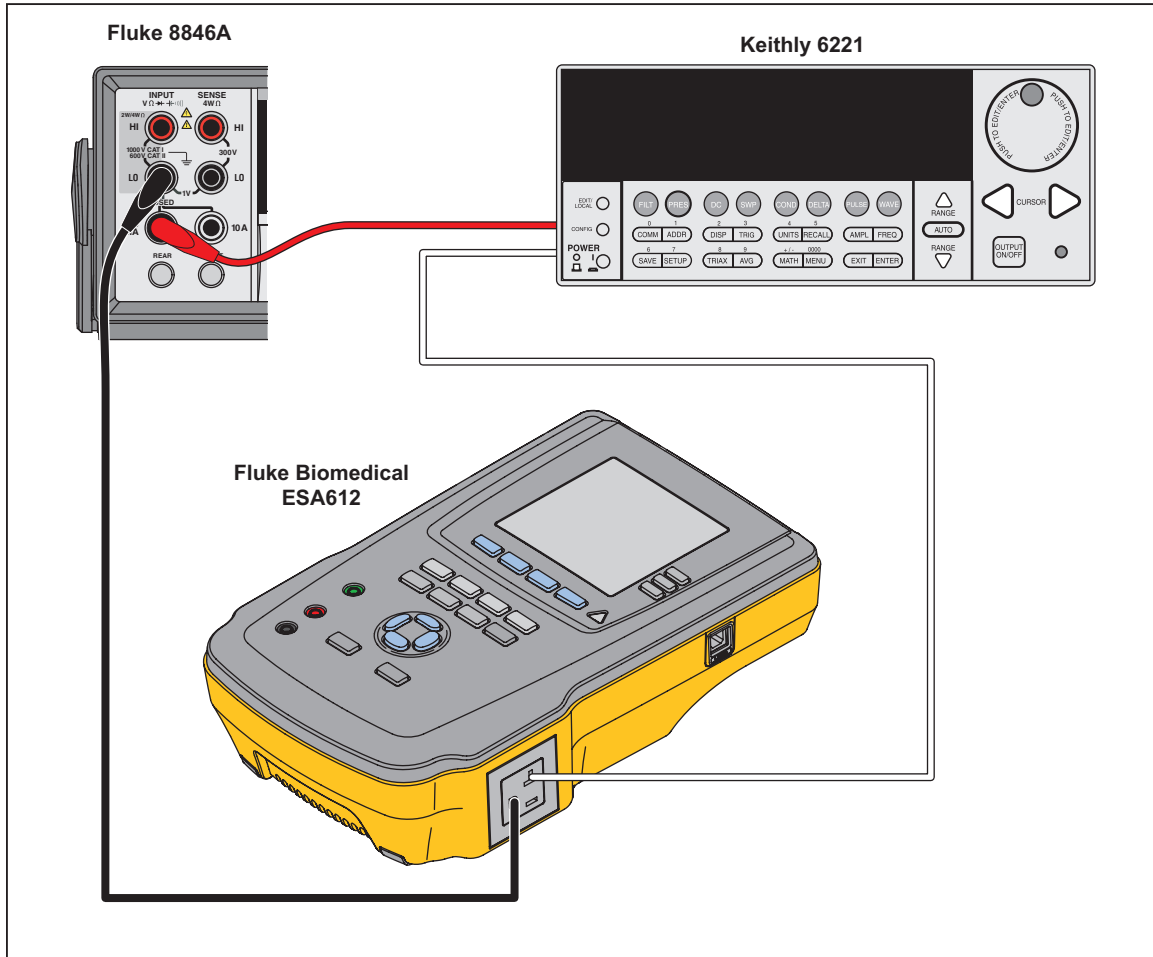

Figure 3-34. Differential Leakage Calibration Connections
1. Connect the current source to the EO neutral and the 400 mA jack of the DMM. Connect the DMM Input (-) to the EO ground. See Figure 3-34. Set the current source to 15.0 mA (21.21 mA p-p), 120 Hz with a 10 V compliance voltage and the DMM to 100 mA ac range.